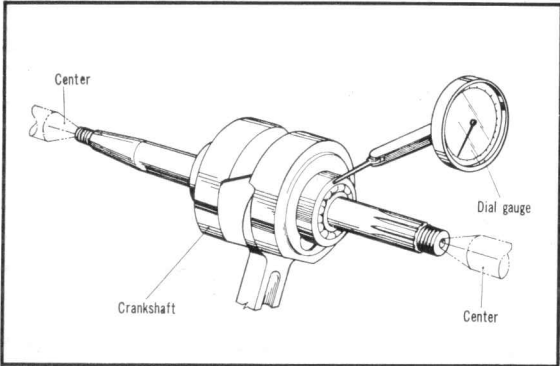

Figure 3-75. Measuring axial clearance
- (2) The clearance in the bearing is measured by fixing the crankshaft on centers and moving the bearing in the axial and vertical direction. (Fig. 3-75)